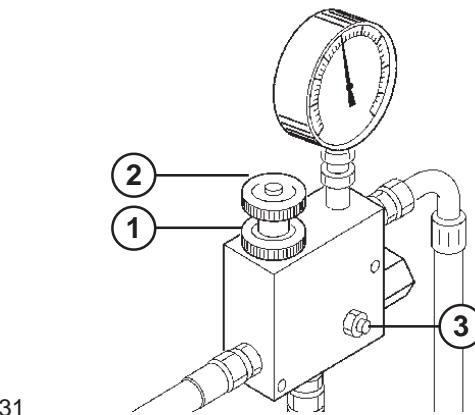

fig. 31
If you wish to increase the number of revolutions of the fan for distributing heavier fertilizers, carefully proceed as follows (Fig. 31):
- loosen the handwheel (1, Fig. 31);
- rotate the handwheel (2, Fig. 31) clockwise or anticlockwise to reduce or increase pressure and adjust the number of revolutions of the blower accordingly.